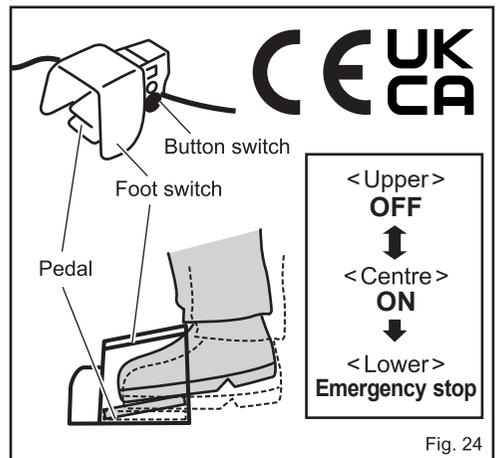

Fig. 24
4. Using the Foot Switch (Fig. 24)